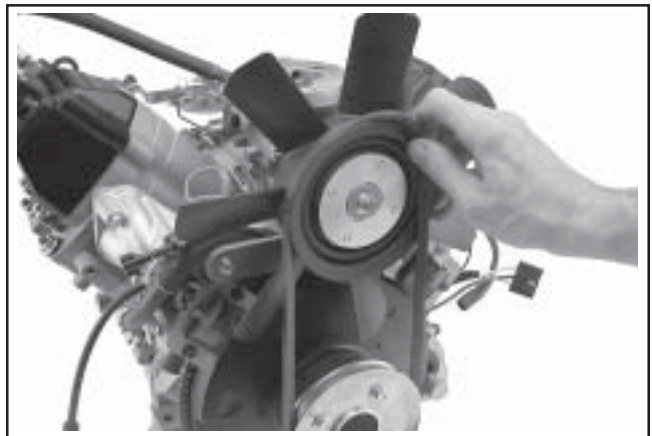
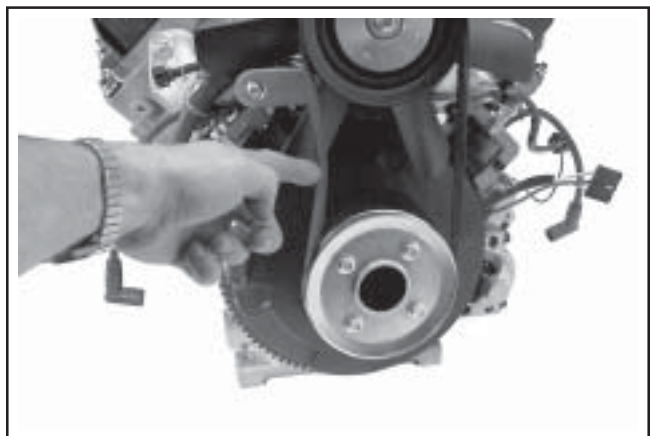

Figure 11-98. Working Belt onto Pulley.
Figure 11-99. Belt Deflection/Tension Checking.
8. Carefully work the belt into place on the pulleys. See Figure 11-98. Check the belt tension. There should be no more than **9.53 - 12.7 mm (3/8" - 1/2")** belt deflection per side with **10 lbs.** of applied tension. See Figure 11-99.